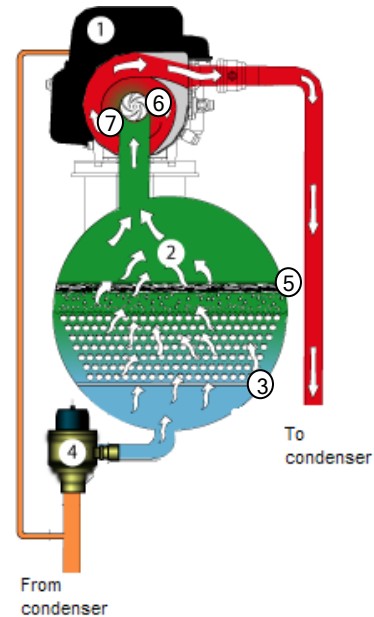

Figure 7: Evaporator Refrigerant Flow
When the chiller is operated in cooling mode, the condensed liquid refrigerant exits the electronic expansion valve (4) Figure 7, and enters the bottom of the flooded evaporator, where it is evenly dispersed along the length of the evaporator by the use of a distributor plate (3). Liquid refrigerant inside the evaporator at low pressure then makes contact with the copper tubes that the building’s water runs through, exchanges heat to the refrigerant, and vaporizes it (2) at the suction pressure of the compressor (1). As a result of the lower density of the vapor and the suction of the compressor, the vaporized refrigerant gas is then drawn to the top of the evaporator through the mist eliminators (5). (Mist eliminators inhibit minute liquid particles entrained in the vaporized refrigerant, from entering the compressor). Passing through the (pre-rotation) inlet guide vanes (6), the vaporized refrigerant then enters the compressor inlet (7), where the angle of incidence of the refrigerant hitting the first stage impeller, is altered, thereby allowing a higher compression efficiency for a given compressor rotor speed.